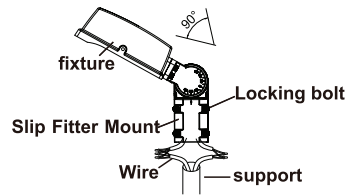

Fig. 11
- 3.) Loosen the screw in the center of the mounting bracket and adjust it to the desired angle. Retighten the screw (**Fig. 11**).